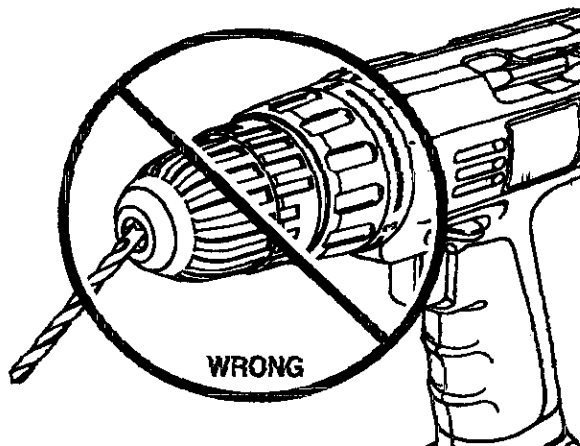

Fig. 8
- ▲ **WARNING:** Do not insert drill bit into chuck jaws and tighten as shown in Figure 8. This could cause drill bit to be thrown from drill resulting in possible serious personal injury or damage to the chuck.